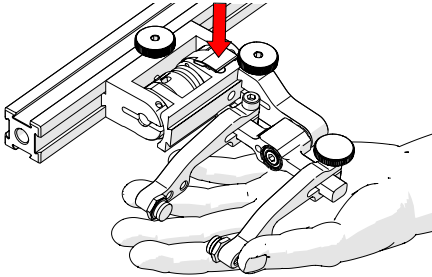

Fig. 53 - Lift slightly and press latch
2. Lift the probe holder slightly and press the latch button (Fig. 53) to release the probe holder the full 45° degrees.